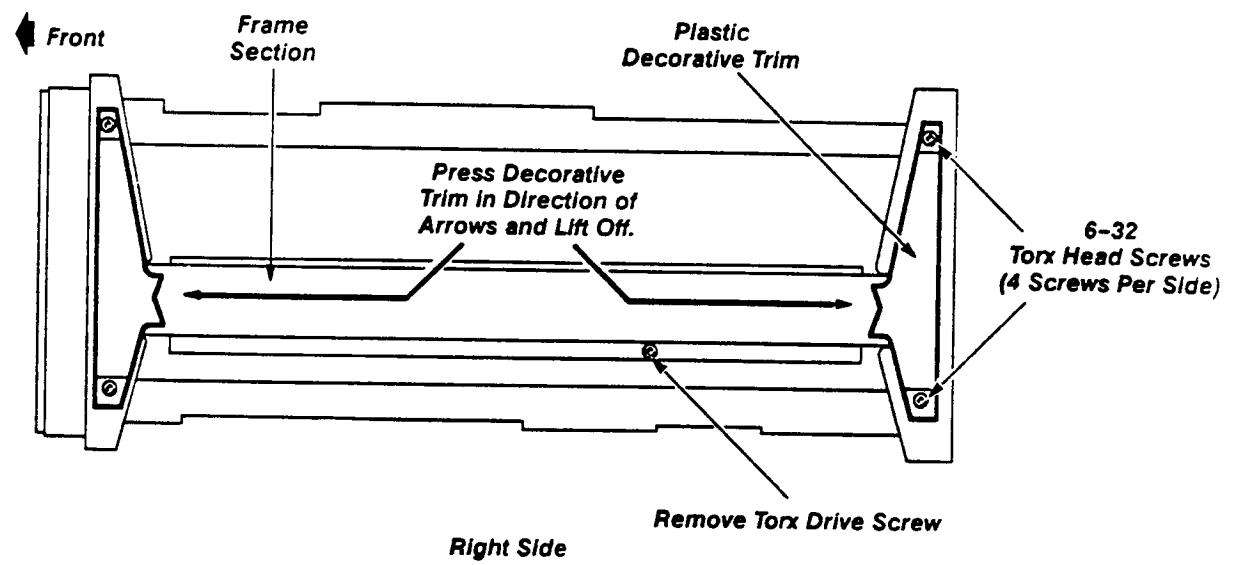

Figure 5, - Trim and frame removal.
*Do not lift the trim covers to remove them; doing so will break the trim covers. There is a clip on the inside of the trim cover which slides over the end of the side frame section. To remove the trim covers properly and prevent breakage of these covers, move each cover towards the end of the oscilloscope where it is located. (The front cover moves forward and the rear moves backward). Moving the clip about 1/8-inch will release the cover. Then, the trim cover can be removed from the oscilloscope. Refer to Figure 5 Trim and frame removal.*
Refer to Figure 5 for hardware and connector locations.*